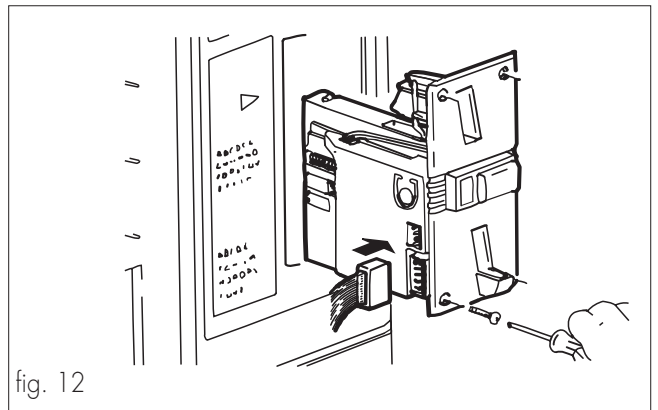

fig. 12
- Insert the coiner and fix it by using the 4 supplied screws with nuts (fig. 12).
- Connect the flat cable to the coiner (fig. 12).